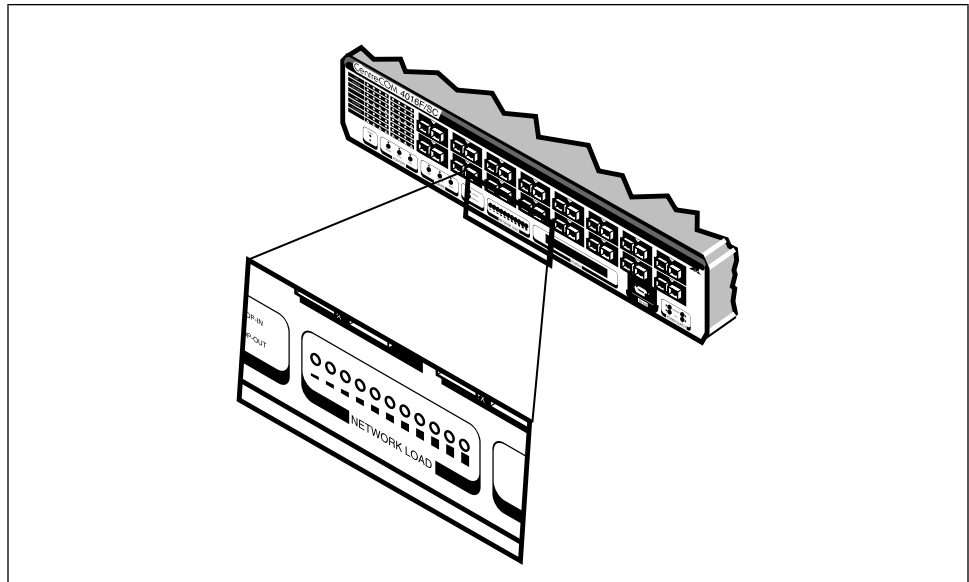

Figure 18: Network Load LEDs
**Network Load (Green)**—Indicates approximately how much of the switch's capacity is being used, depending on how many of the 10 LEDs in the gradient light up. Figure 18 shows the Network Load LEDs.